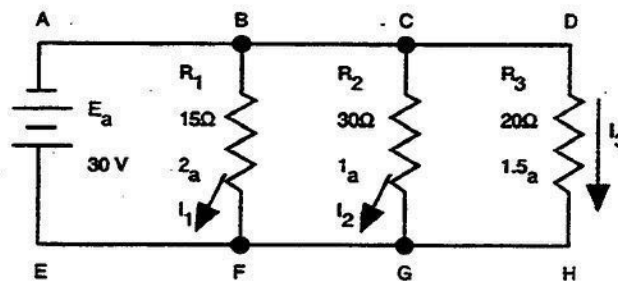

Figure 2-24. Voltage in a parallel DC circuit.
**Calculate values in DC parallel circuits.** It is often necessary to connect electrical devices so the entire source of voltage is across each device. A circuit in which two or more devices are connected across the same voltage source is a parallel circuit. Refer to the circuit in figure 2-24. Note that points A, B, C, and D are connected together and are one point electrically when the circuit is closed as shown. Similarly, points E, F, G, and H comprise another electrical point. Since the applied voltage appears between points A and E, the same voltage appears between points B and F, between C and G, and between points D and H. We conclude that when resistors are connected in parallel across a voltage source, each resistor has the same voltage applied to it, although the currents may differ depending on the values of resistance. Let us discuss these points more thoroughly.
**Calculating voltage.** Kirchhoff's law states that the sum of the voltage drops in a closed loop are equal to the applied voltage. Let us prove this by calculating the voltage drop across each of the resistors in figure 2-24. In the circuit shown,  $R_1$ ,  $R_2$ , and  $R_3$  form three parallel closed loops with 30 volts applied. If we find the voltage drop across any one of the resistors, we should have the applied voltage. Let us calculate the voltage drop of  $R_1$  by using Ohm's law and the indicated values of resistance and branch current: